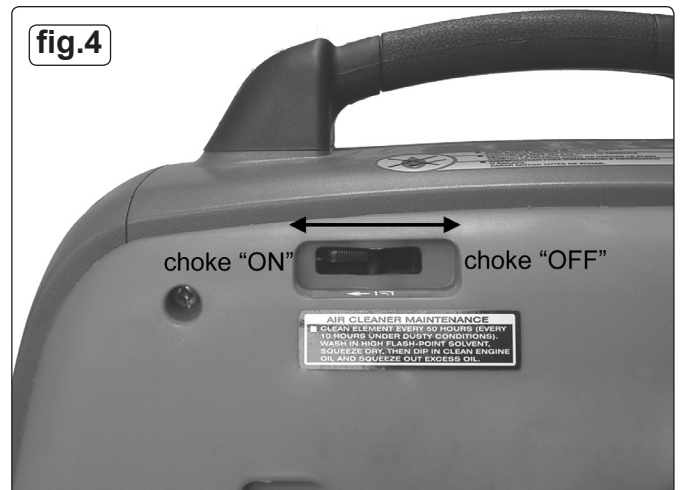

fig.4
- 3.2.5 Move the choke lever to the ON position (fig.4).
- 3.2.8 After the engine has warmed up, move the choke lever to the OFF position (fig.4).